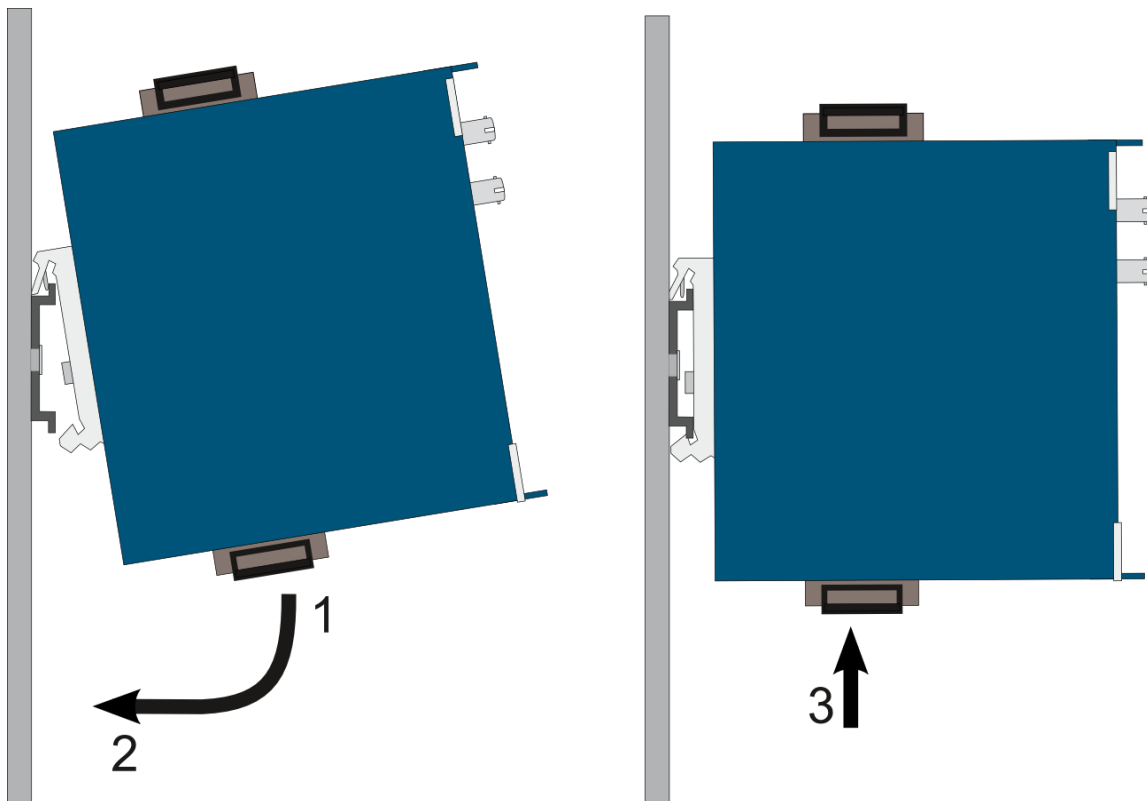

Figure 4: Installation on DIN mounting rail
The *e-light* 2MA switches are equipped with a fastener for 35 mm top-hat rails as per DIN EN 60175. To install the top-hat rails, snap the devices onto the top side of the rail (Figure 4 left) and then press downward against the spring force in the top-hat rail clip (1) and then into the assembly plate (2). The top-hat rail fastener locks via spring force (3) as depicted in the Figure 4 right.